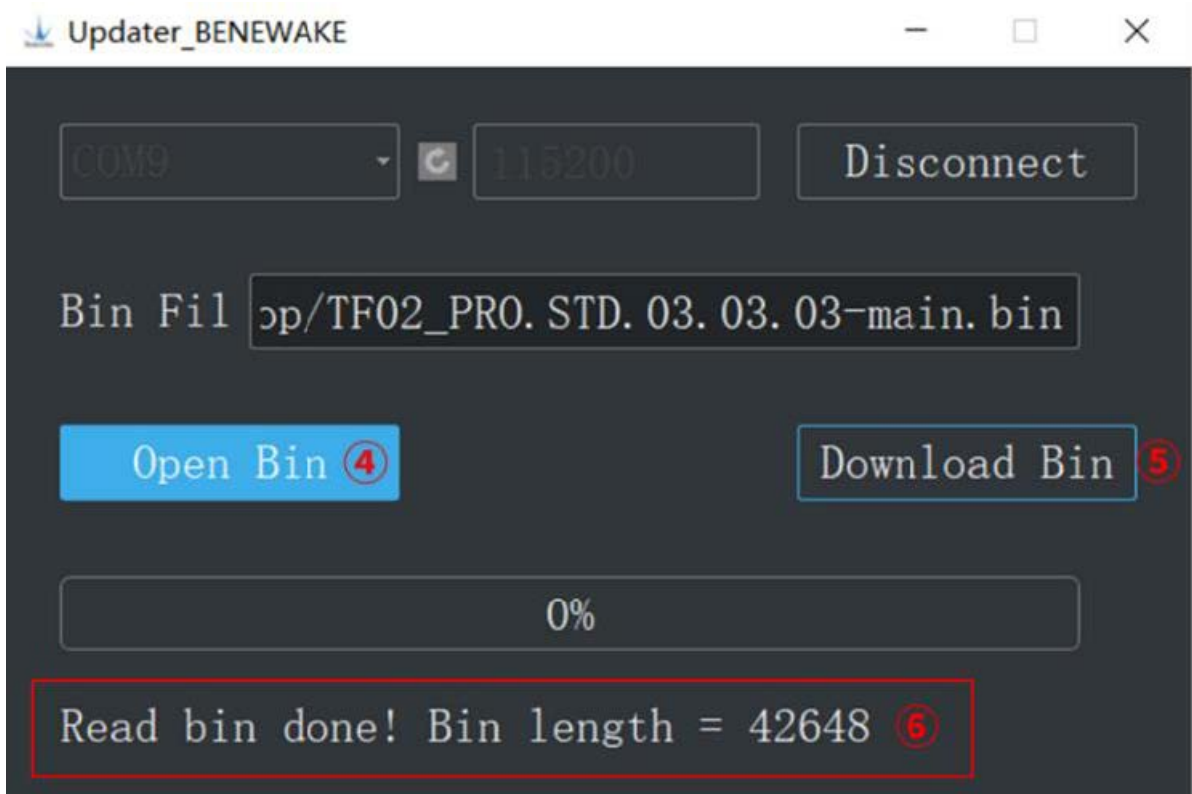

Figure 6-2 Upload firmware file
- Click “④ Open Bin” to choose the firmware being flashed, the message “⑥Read bin done” will be displayed after the file is uploaded. Then click “⑤ Download Bin” to start upgrading. As shown in Figure 6-2.